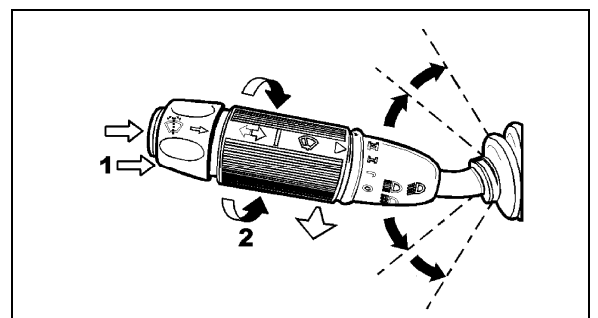

FIGURE 34: MULTIFUNCTION LEVER 23133
Rotate the multifunction lever forward to activate lower windshield wipers (arrow 2, fig. 34). The first position operates the wipers at low speed and the second position operates the wipers at high speed. Turning the lever backwards will operate the wipers in the intermittent mode.
To activate the upper windshield washer pump, depress and hold the top of the rocker switch on dashboard L.H. side (fig. 34). The upper wipers will come on automatically and will shut off a few seconds after releasing the rocker switch.
The lower windshield washer pump is electrically operated and is controlled by a washer control ring on the multifunction lever (item 1, fig. 34).